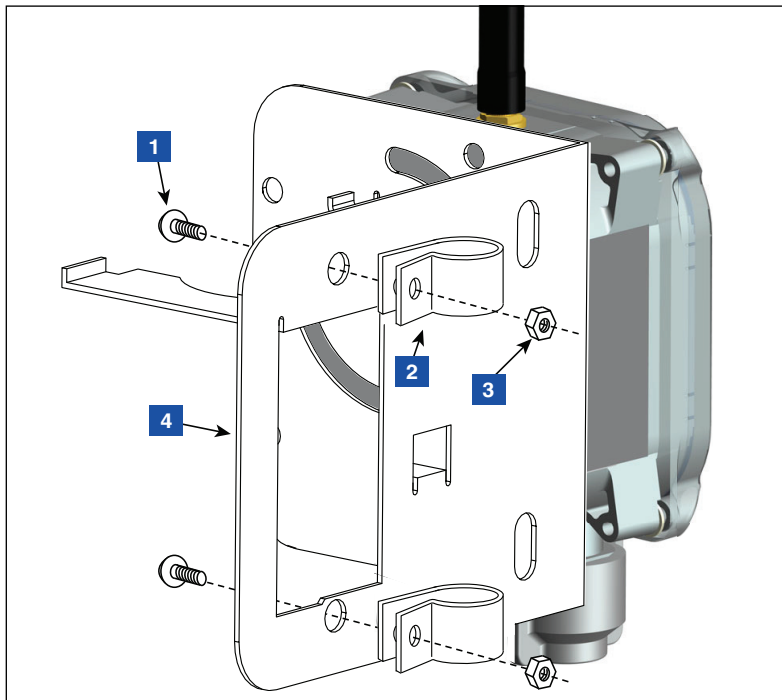

Figure 31. Attach Conduit Clamps to Support Bracket
4. Attach two 12.7mm (1/2") plastic clamps to the support bracket as shown in Figure 31.
LEGEND FOR NUMBERED BOXES IN Figure 31